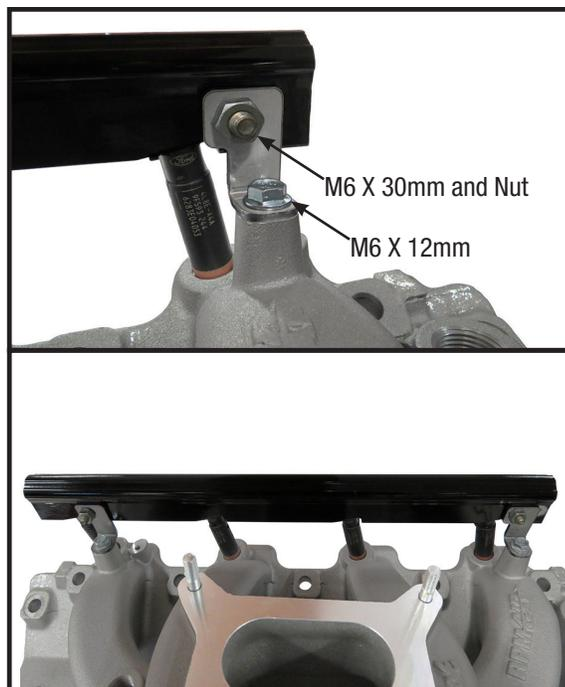

Figure 1
2. Once you have installed the fuel rail kit and injectors into the manifold, install the supplied brackets onto the fuel rails stands of the manifold using the supplied M6 X 12mm bolts as shown in **Figure 1**. Ensure that the holes on the brackets align with the side holes of the fuel rails.